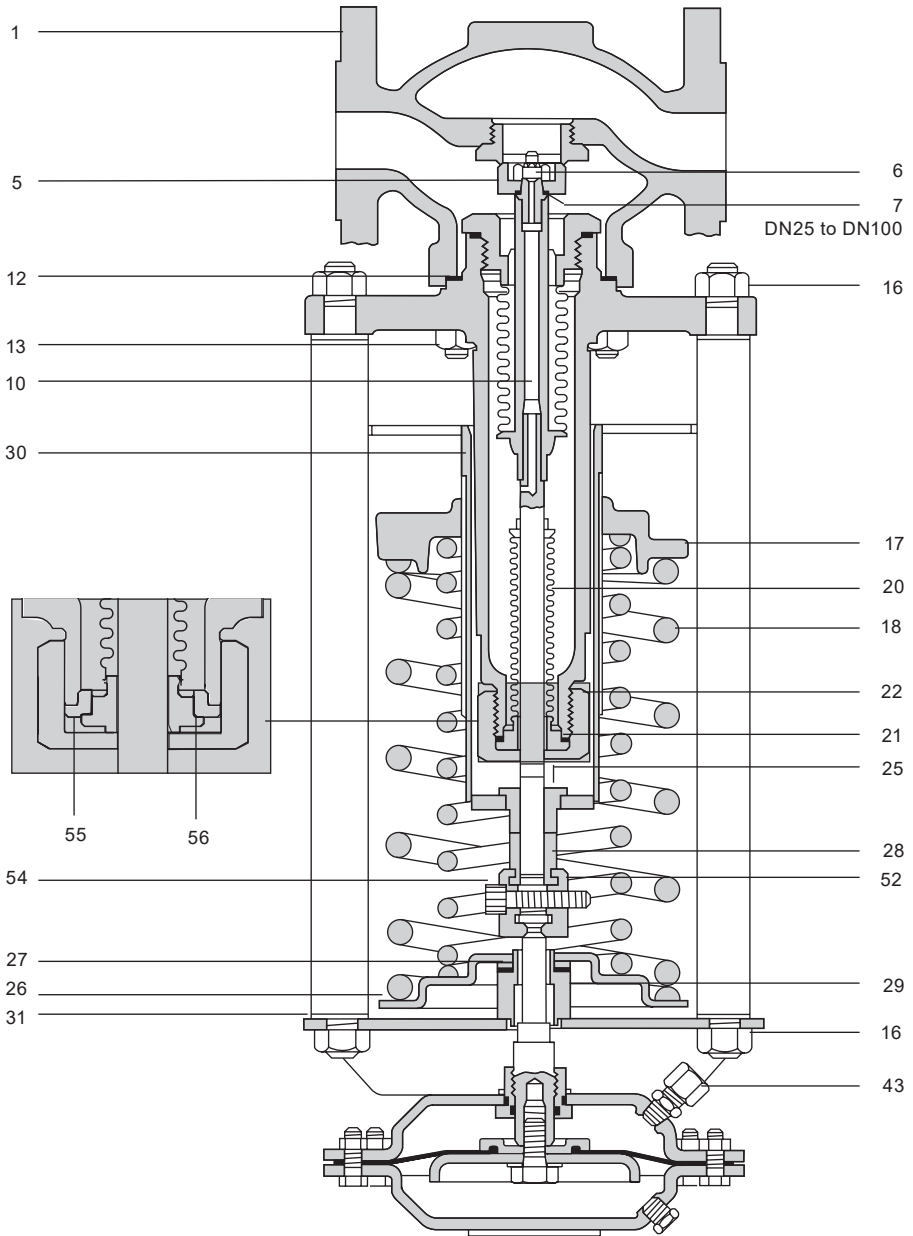

Fig. 11 DN25 to DN50
4.4.2 To renew or change control spring(s) (Figure 11):
- Rotate the spring adjuster (17) to reduce spring compression to zero.
- Disconnect the upstream pressure signal line from the actuator coupling (43) and remove the actuator from the valve as described in Section 4.4.1.
- Unscrew pillar nuts (16) and remove mounting plate (31), bearing locator (29), needle bearing (27), spring plate (26) and spring(s) (18).
4.4.3 To renew sealing bellows assembly (Figure 11):